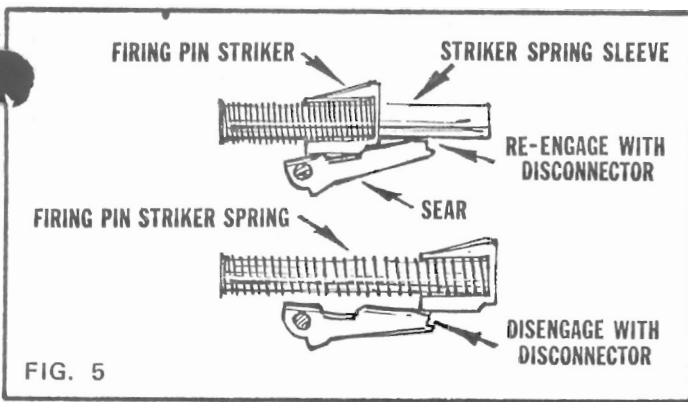

FIG. 5
**To Reassemble** – (with sear assembled to rifle) Make certain striker spring sleeve and spring remains assembled to stock with flanged end to rear. Assemble firing pin striker to bolt rails in stock (with large hole diameter to rear). Slide striker rearward along bolt rails until striker spring re-enters spring hole at rear of striker. Continue pushing striker rearward until halted against sear – and hold. Pull trigger and hold. This will permit disconnecter to move forward and disengage sear. Press sear downward. Then push striker to rear and over sear. Release trigger. See Fig. 5. Releasing trigger permits disconnecter to move rearward again and re-engage sear. Sear in turn will then hold firing pin striker rearward and in "cocked" position.